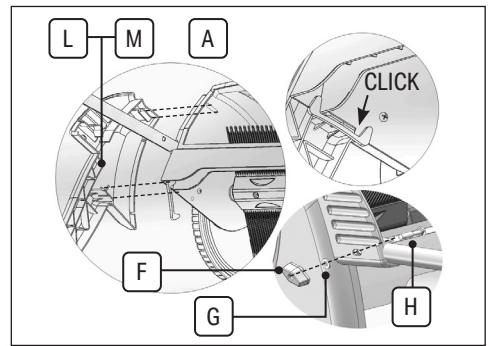

Fig. 3
3. Insert the support legs **L** and **M** into the holes in the sweeper body **A**. Position as shown in Fig.3 – move the lock, press down and fit into the hole. Insert M6 bolt **H** into the hole of the handle and support leg as shown. Screw together tightly using a wingnut **F** and M6 washer **G**.